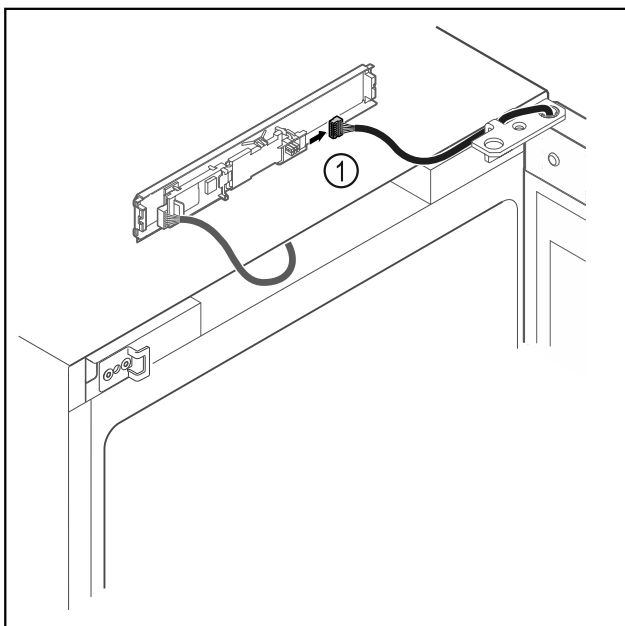

Fig. 10
- ▶ Disconnect the plug Fig. 10 (1) from the circuit board.